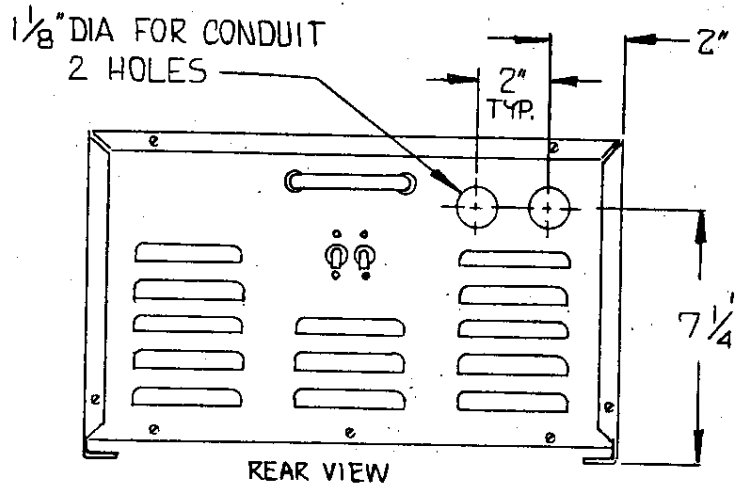

Figure 3-1
The input AC control and DC power enters the back of the unit as shown in Figure 3-1.
Primary power connections are made to the two line terminals, L1 and L2, on terminal board 1. The interconnecting terminal board is located directly beneath the access door on the top panel of the power supply. A standard size conduit hole is provided on the back panel next to the access door to allow bringing the two primary power leads and ground into the power supply. The primary leads should be enclosed in solid or flexible conduit to meet the necessary electrical codes (see Figures 3-1, 3-2, & 3-3).
- b. Remove the access panel on the top cover of the power supply and locate the interconnecting terminal board (see Figure 3-1).